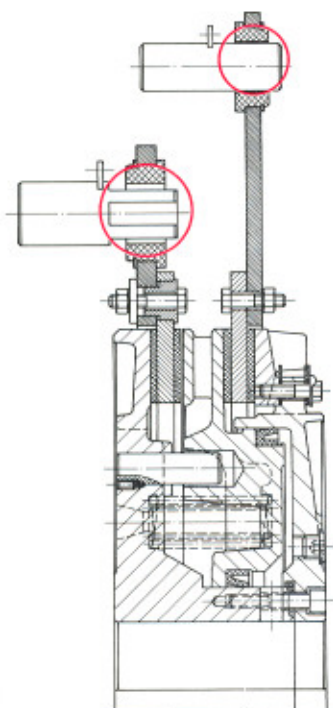

Fig. 12 LKBZU
The plastic bushes (30) of the twelve-point suspension and the bolts (37, 40, 51 and 54) of the two-point suspension of the friction discs must not be coated with paint (see Figs. 12 and 13). For trouble-free operation of the clutch-brake combination, it must be guaranteed that the clutch disc and the brake disc are free to move axially on the plastic bushes of the twelve-point suspension or on the bolts of the two-point suspension. If this prerequisite is not fulfilled, the LKB may be destroyed as a result of permanent friction.